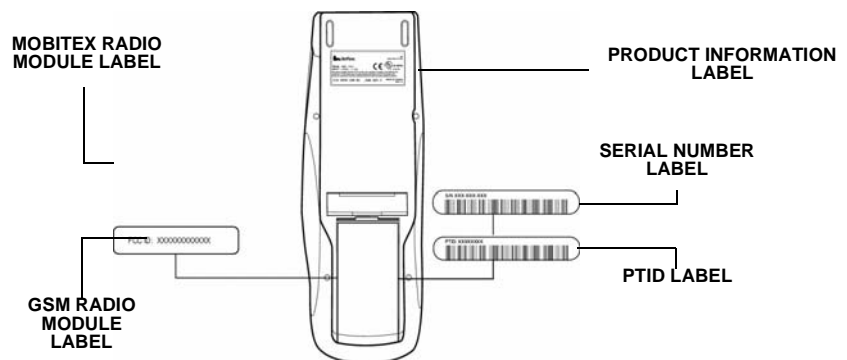
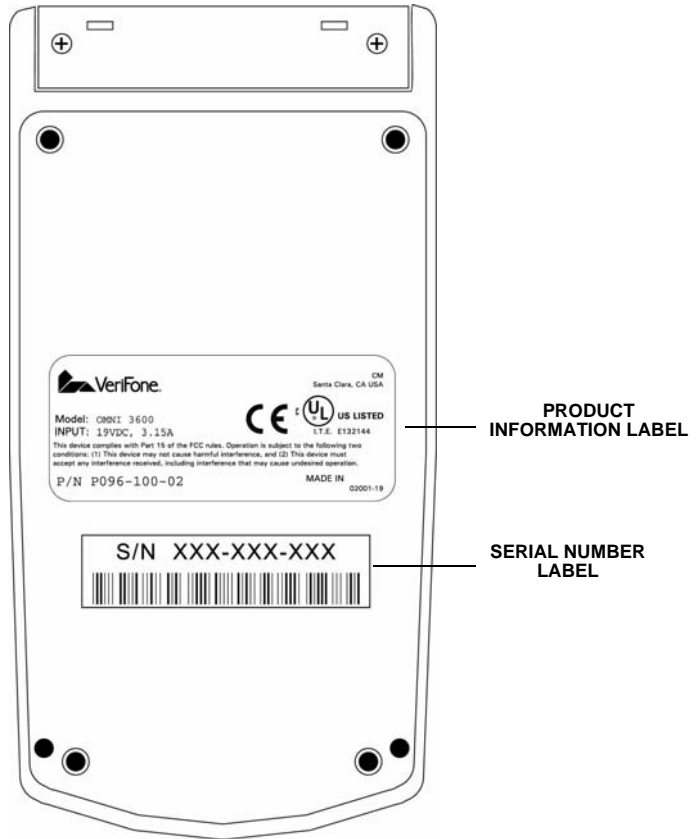
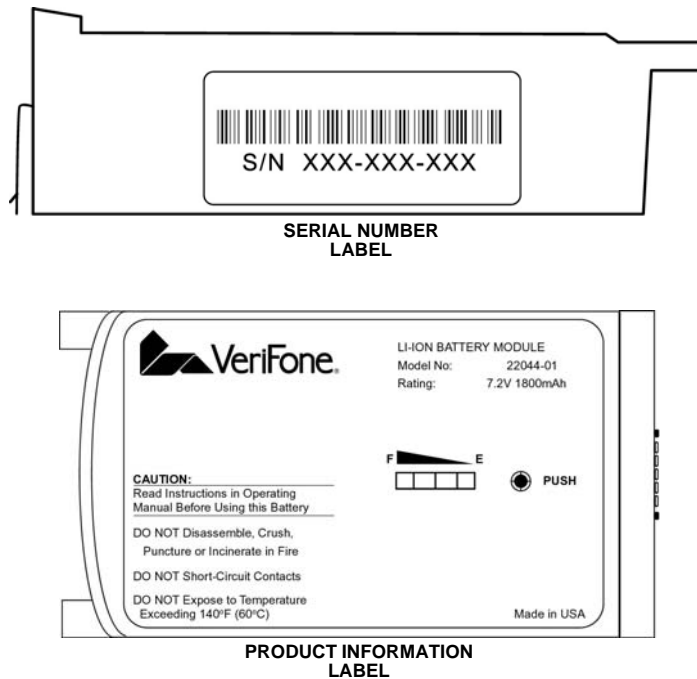

Figure 29 **Omni 3600 Terminal Information Label Locations**
Figure 30 Omni 3600 Base Information Label Locations
Figure 31 Smart Battery Information Label Locations
- 1 Gather the following information from the printed labels on *each* Omni 3600 terminal (Figure 29), Omni 3600 base (Figure 30), and smart battery (Figure 31) you are returning: